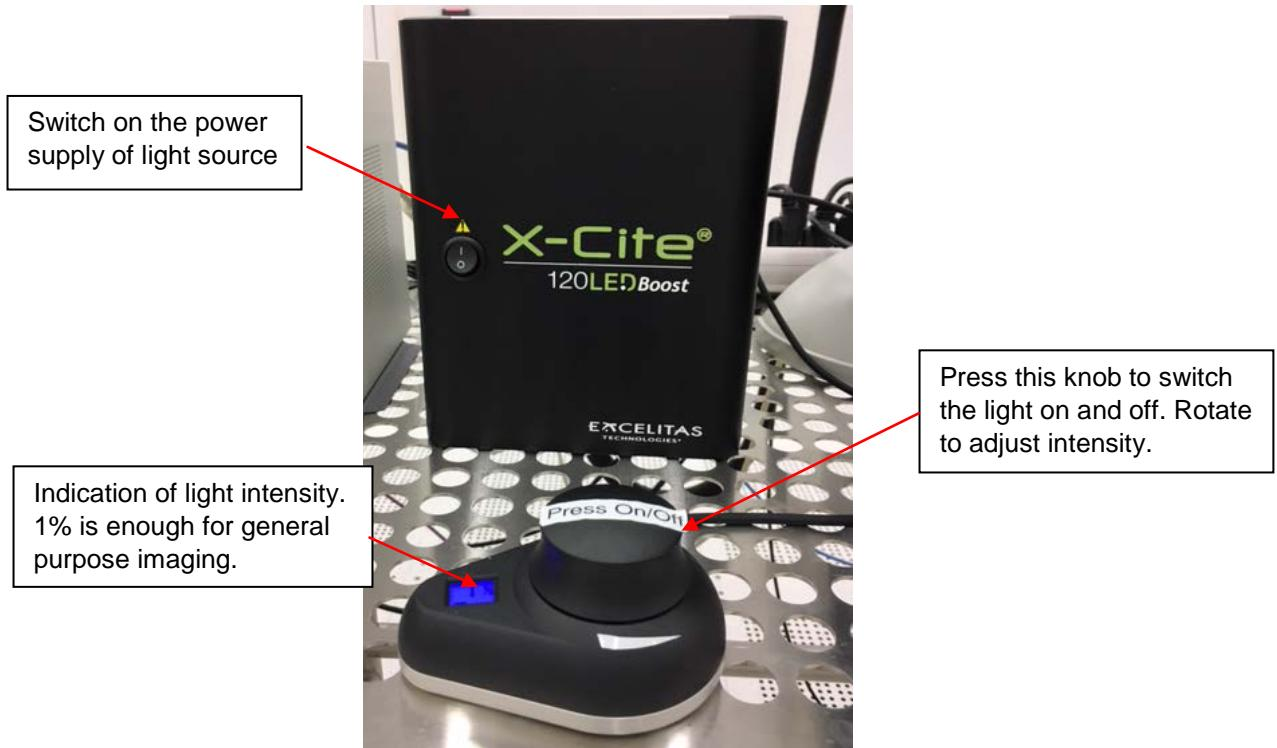

Figure 2: Light intensity control
- 2) Switch on the microscope light (Figure 2).
- 12) Lower down the sample stage by turning the coarse focus. Turn off the light by pressing the on/off knob in Figure 2. Unload the sample.